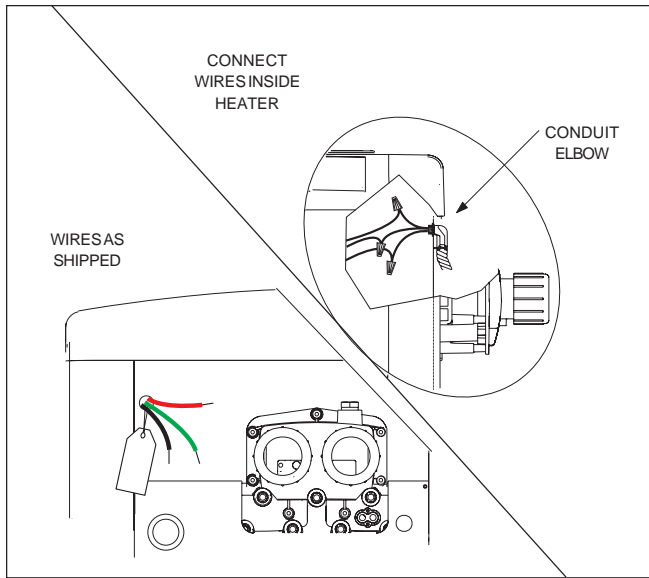

Figure 19. Field Wiring Connections
3. Connect the wires from the power source to the leads on the right side of the heater in the space behind the raceway. You may need to remove the control to gain access to the leads (See Fig. 19).